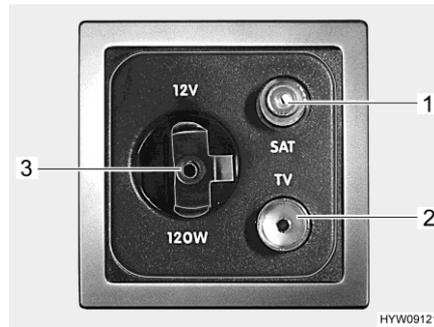

Fig. 52 Sockets (external satellite antenna)
- Plug the external satellite antenna's connecting cable into the SAT socket (Fig. 52,1).